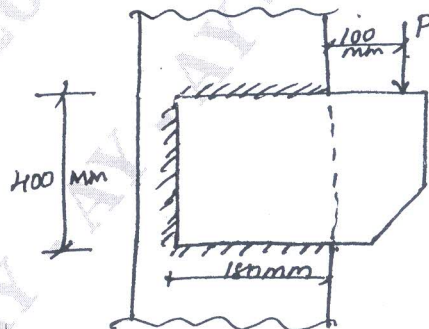

Fig. Q3
- 3 Determine the bracket load the connection can carry use 8 mm fillet weld. [Refer Fig.Q3] (20 Marks)